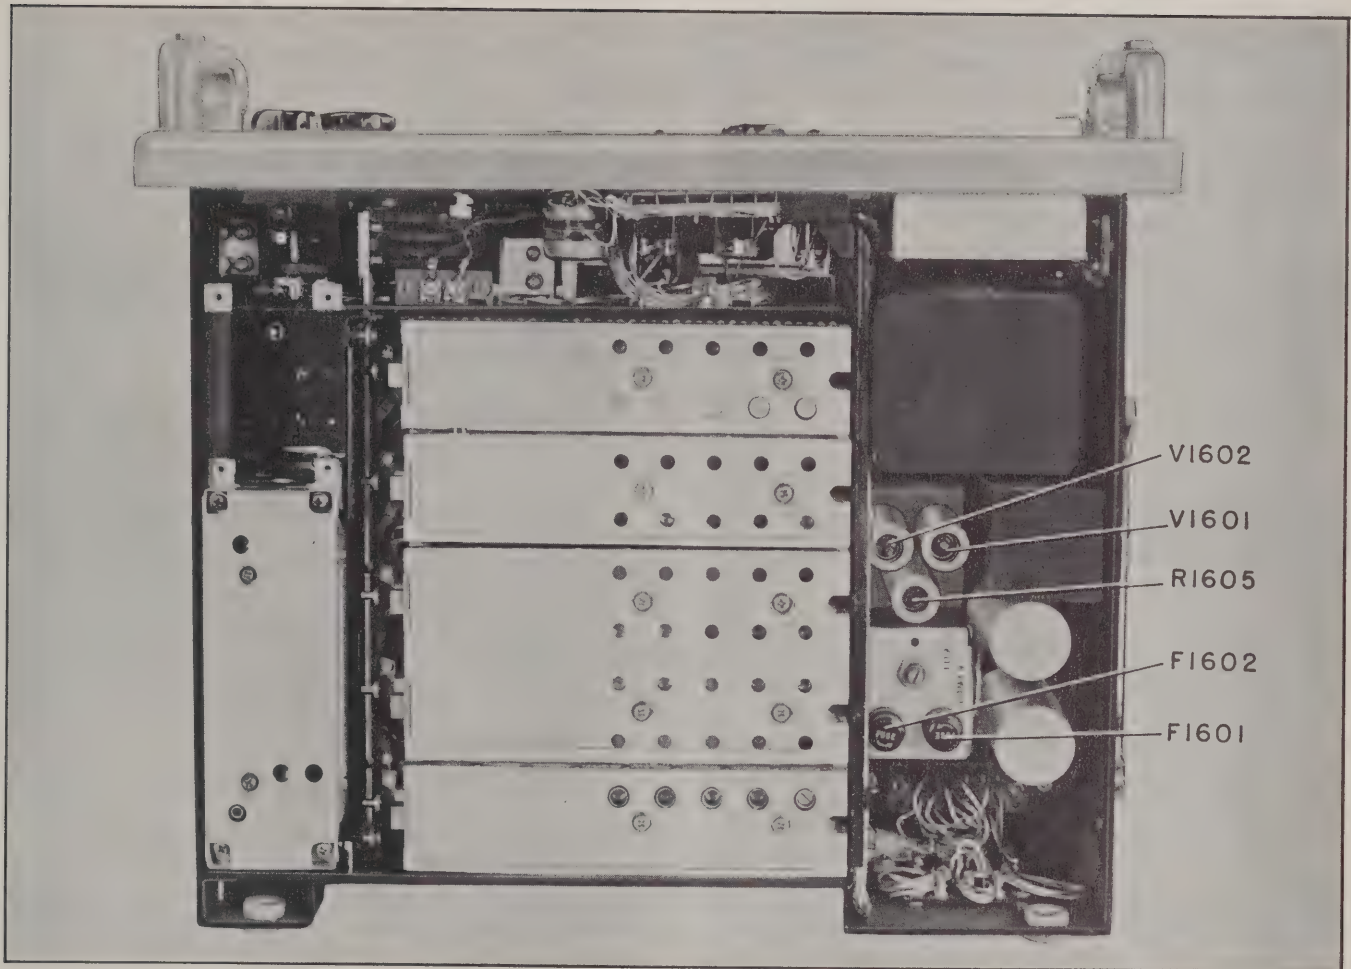

Figure 5-1. Tube and Fuse Locations
(1) SYMPTOMS OF FUSE FAILURE.—Dial light and PILOT light will be out. Receiver will be inoperative.
(2) FUSE LOCATION.—The two 0.8 slo-blow fuses used in the power supply are located on the power supply chassis toward the rear. This unit is accessible from the bottom of the main chassis (see figure 5-1).
(1) SYMPTOMS OF TUBE FAILURE.—If rectifier tubes in the power supply are faulty, the dial light will be lit, but the PILOT light will be out, and the receiver inoperative.
(2) ELECTRON TUBE LOCATION.—The two high voltage rectifier tubes and ballast resistor are mounted on the power supply (see figure 5-1).
(3) LOCATING AND REPLACING RECTIFIER TUBES AND BALLAST RESISTOR.—Slide the chassis out of the cabinet or case and connect the test cable between the socket mounted at the rear of the chassis, and the socket on the filter assembly which is located on the back wall of the cabinet.
Turn the receiver to ON and allow about 30 seconds for the tubes to warm up. The rectifier tube or tubes (V1601 and V1602) in the power supply that fail to glow should be replaced, and the ballast resistor (R1605) should be replaced if it fails to glow with a dull red. **TURN RECEIVER OFF BEFORE REPLACING ANY OF THESE TUBES** (see figure 5-1).